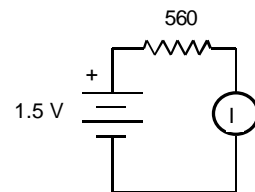
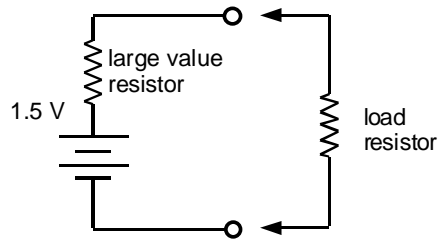

Figure 1-8.
Figure 1-9
- \* – Measure the actual value of the resistor shown in Fig. 1-8. (Throughout this course, always measure your resistor values before assembling the circuit.)
- \* Wire up the circuit in Figure 1-8. Set the function switch to the maximum current scale (2 A) and connect the meter into the circuit.
- \* Connect a 1.5 V battery and a large-valued resistor (3.3 kΩ or higher) to make a current source. For a load resistor, use the resistor substitution box (choosing values ranging from 0.1 to 2.0 times the value of the large resistor), as shown in Figure 1-9.
\* Examining Figure 1-9, use the potentiometer, instead of fixed resistors, to hook up the circuit. Be sure that you apply the *input* voltage across the two terminals that have a *fixed* resistance. The *wiper* of the potentiometer should be the output terminal in the middle-right of Figure 1-8. Observe the output voltage while turning the potentiometer. If the output voltage increases as you turn the knob clockwise, you are done; otherwise change one of the *output* connections.